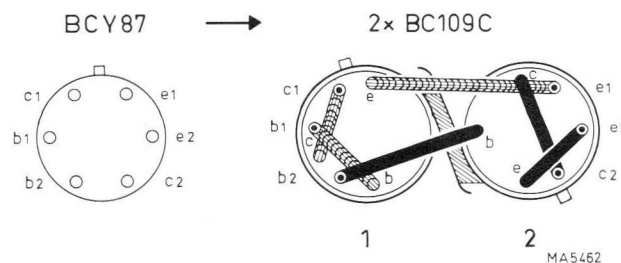

Fig. 14. Transistors BCY87 and coupled pair "2 x BC109C" seen from below
1. In stead of one BCY87, two selected BC109C transistors have been used, thermally coupled by means of a bracket and a plastic cap. Owing to the position of the two transistor holders (used for one BCY87), the connecting wires of the coupled BC109C transistors have been bent into the position shown in figure 14. The connecting wires are also fitted with insulating sleeves. When servicing, this combination can readily be replaced by a BCY87 if the latter is available.
This facilitates the insertion of 2 x BC109C transistor combination in the holders without having to bend the connecting wires to the position shown in Fig. 14. For replacement purposes, a pair of thermally-coupled transistors can be ordered from the Service Department. The plastic cap can also be supplied.